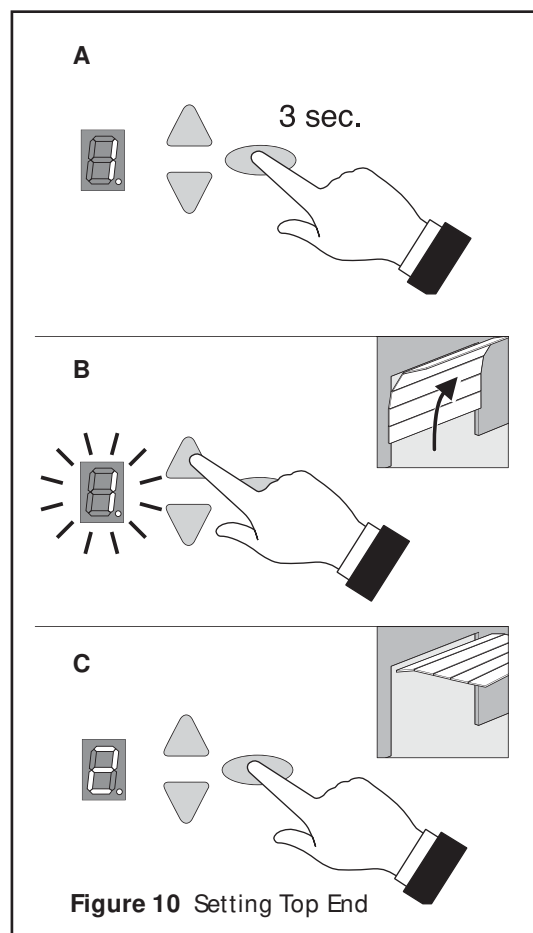

Figure 10 Setting Top End
- A Keep button D pressed for 3 seconds (Figure 10).